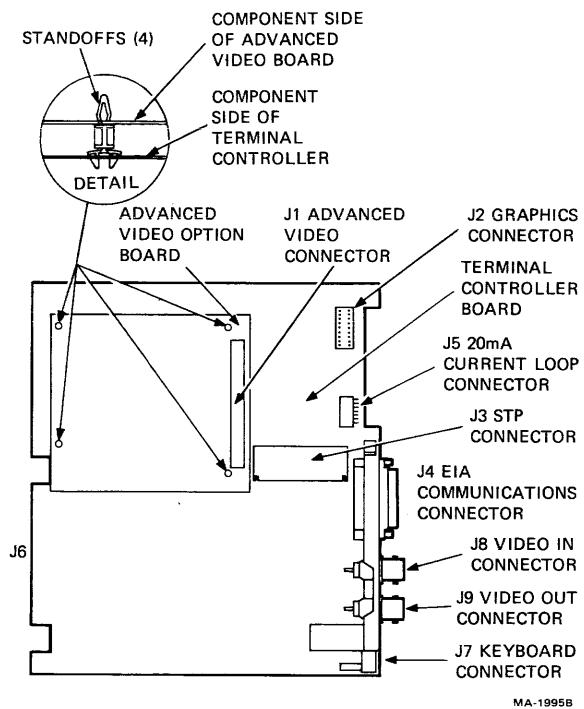

Figure 10-6 Advanced Video Option Location and Installation
11. Locate the four mounting holes drilled in the terminal controller board for the Advanced Video Option (AVO) and mount a plastic standoff in each hole (Figure 10-6).